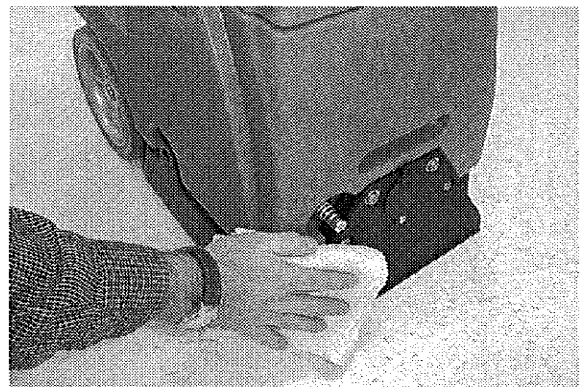

FIG. 18
8. Clean machine with an all purpose cleaner and damp cloth (Figure 18).